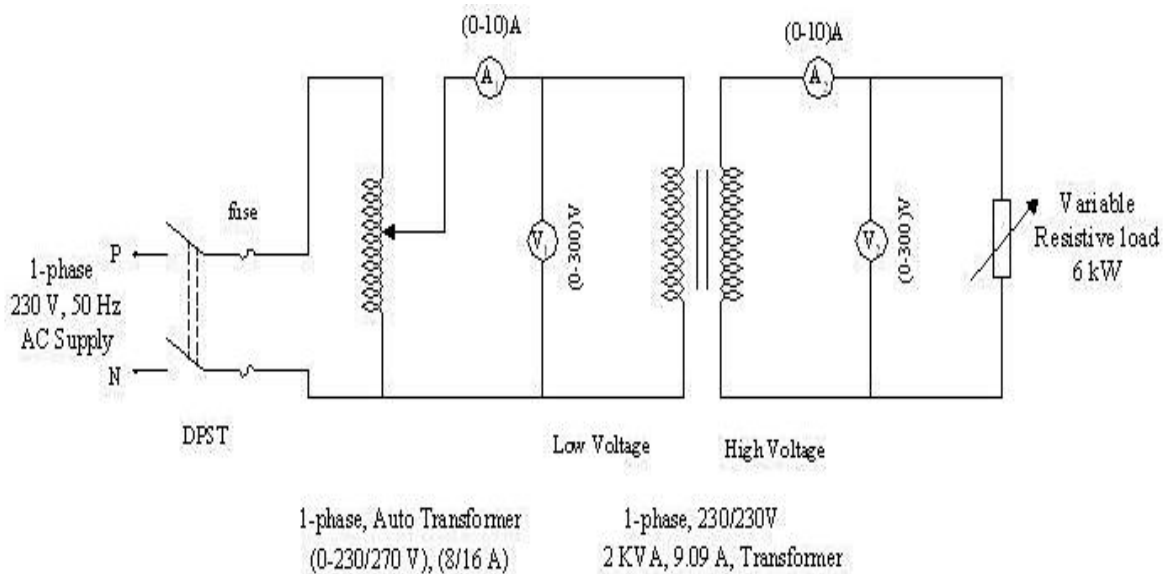

Fig. 8.1: Direct Loading Test of a Single Phase Transformer
- (a) Connect the circuit as shown in fig. 8.1.